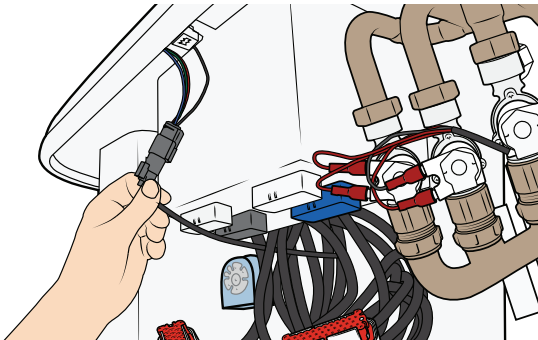

Figure 29
11. If equipped with Ambient light, disconnect the Ambient light connector. See Figure 29.